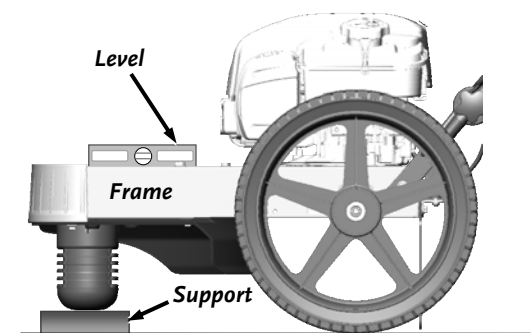

Figure 10: Level
2. Place a support (wood block or similar) under the Mow-Ball so the Frame and Engine are level (Figure 10).